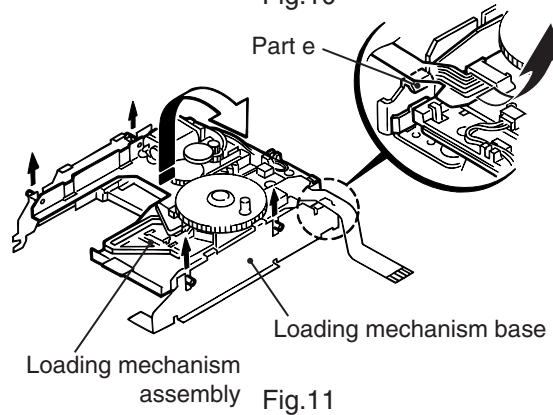

Fig.11
2. Remove the slide base (L) outward. (Release it from the joint bosses E.)
3. Remove the slide base (R) outward.
■Removing the loading mechanism assembly (See Fig.11)